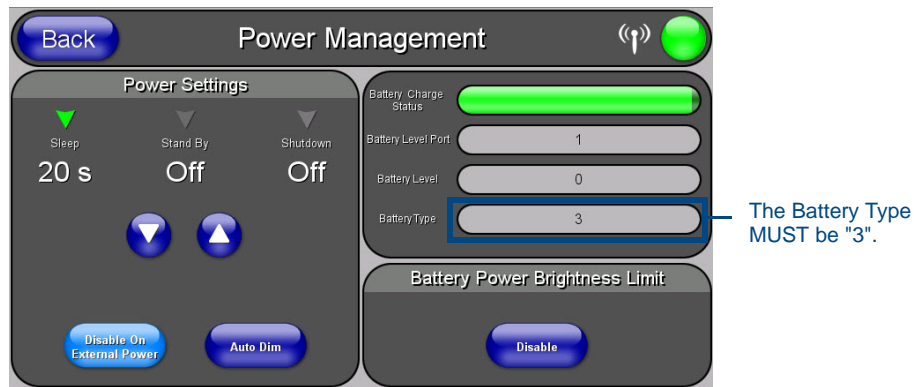

FIG. 9 Power Management Page
2. On the right side of the *Power Management* page, read the number in the *Battery Type* field (FIG. 9). If the correct battery type is installed in the device, this number must always be "3".